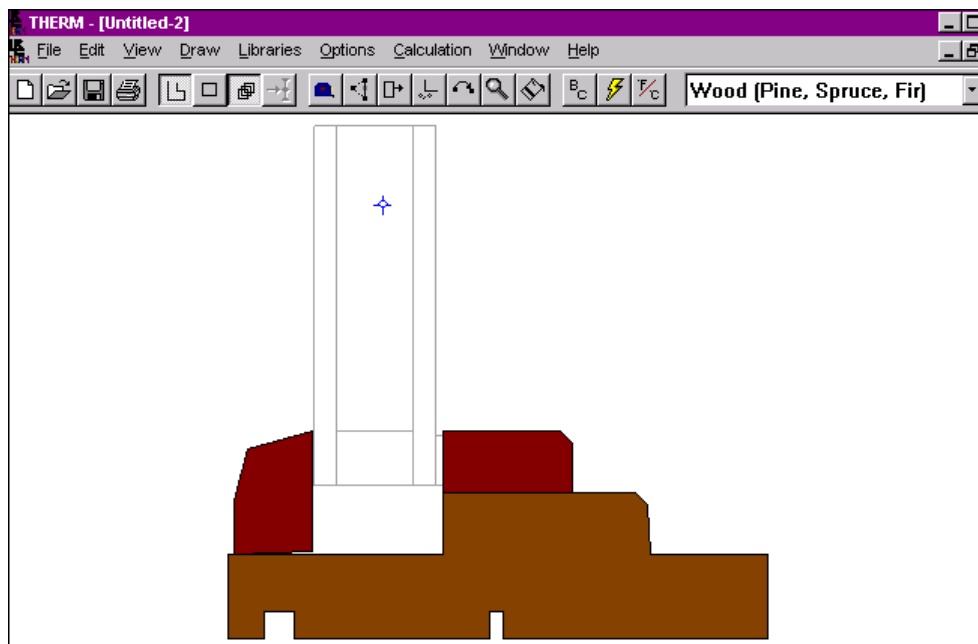

Figure 8-20. The wood components have been defined.
- Next draw the frame in which the glazing sits using the same method above; after that, draw the inside stop, as shown in Figure 8-20.